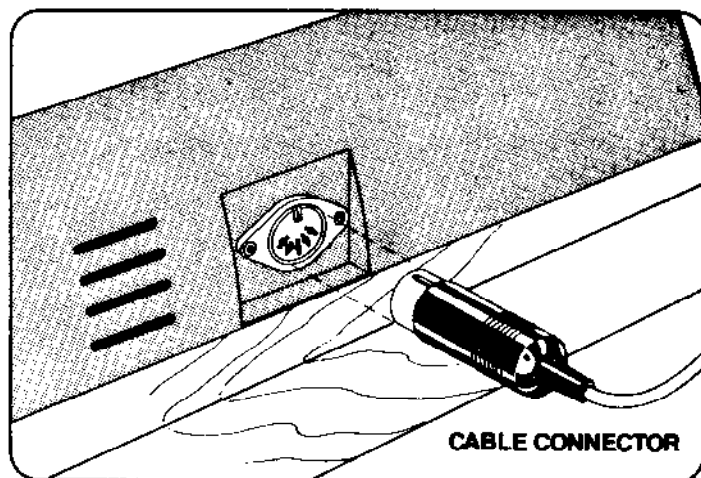

Figure 1.
1. Plug the Printer Control Cable into the receptacle in the back of the Voice Sensory Chess Challenger (Figure 1).